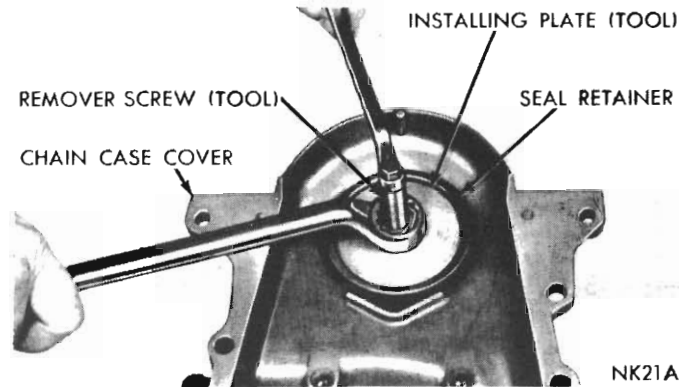

Fig. 23 - Installing a new seal (Tool E9C57A)
(4) Install flat washer and nut on remover screw, hold screw and tighten the nut (Fig. 23).